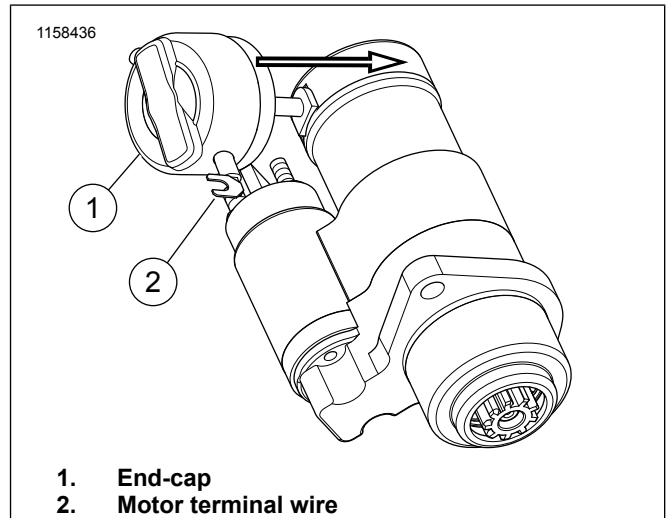

Figure 7. Installing End-Cap
21. Figure 7 Insert the motor terminal wire through the smaller of the two holes inside the end-cap.